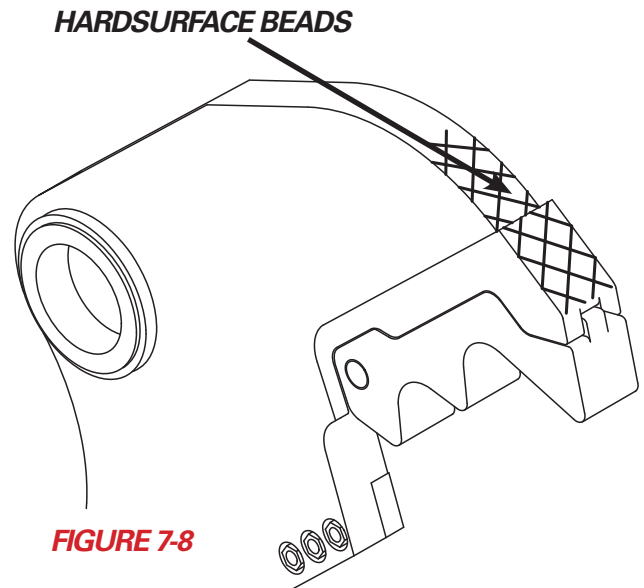

FIGURE 7-8
6. To hardsurface the area just built up, start by applying single passes of AWS E7018 build-up in a diamond pattern of approximately 1.50" (38 mm) to establish the pattern (see Figure 7-8). This will serve as an underlayment for the hardsurfacing.